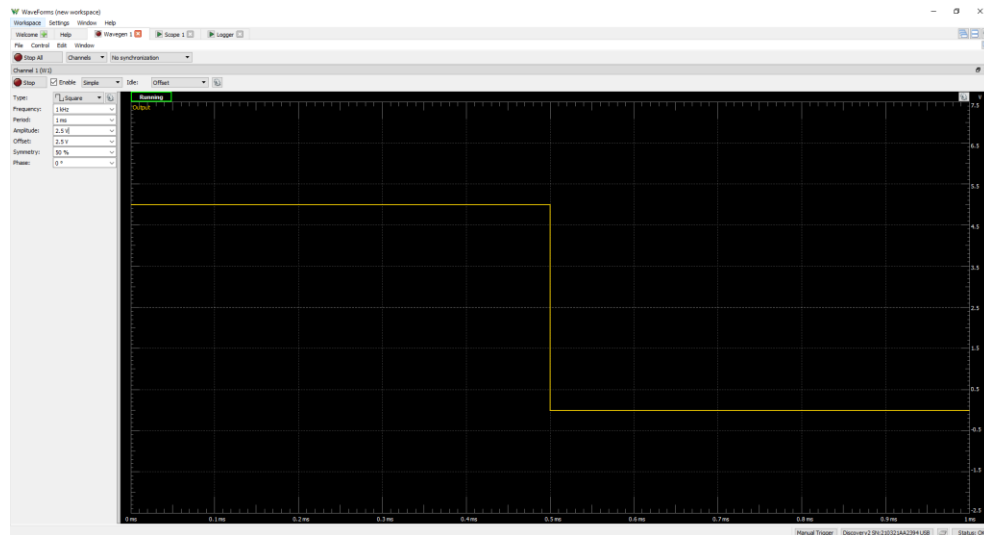

Figure 3. 5V amplitude PWM set up in the AD2's Wavegen 1.
6. From the welcome page, click the logger function and have the C1 True RMS visible (Fig. 3). NOTE: I left the update pull down at 1s (this pull down controls the sampling frequency).
10. Start the logger by clicking the green play button in the logger window. Adjust the window size by clicking on the small gear button associated with C1 True RMS. The example in Fig. 3 was set to have a window size of 200mV. The window location depends on the input signal used. NOTE: Ensure that the C1 True RMS is dictating the graph on the screen by clicking on the “Name” box of C1 True RMS to highlight its row (the row will highlight blue or light grey). This was done correctly if the numbers on the y-axis are blue/match the color of the logger signal.
11. Apply pressure to the foam sensor and watch the change in V_{rms} in the logger window as you apply different pressures. An example is seen in Fig. 3. In the example, a maximum change of about 20mV was produced with my thumb.